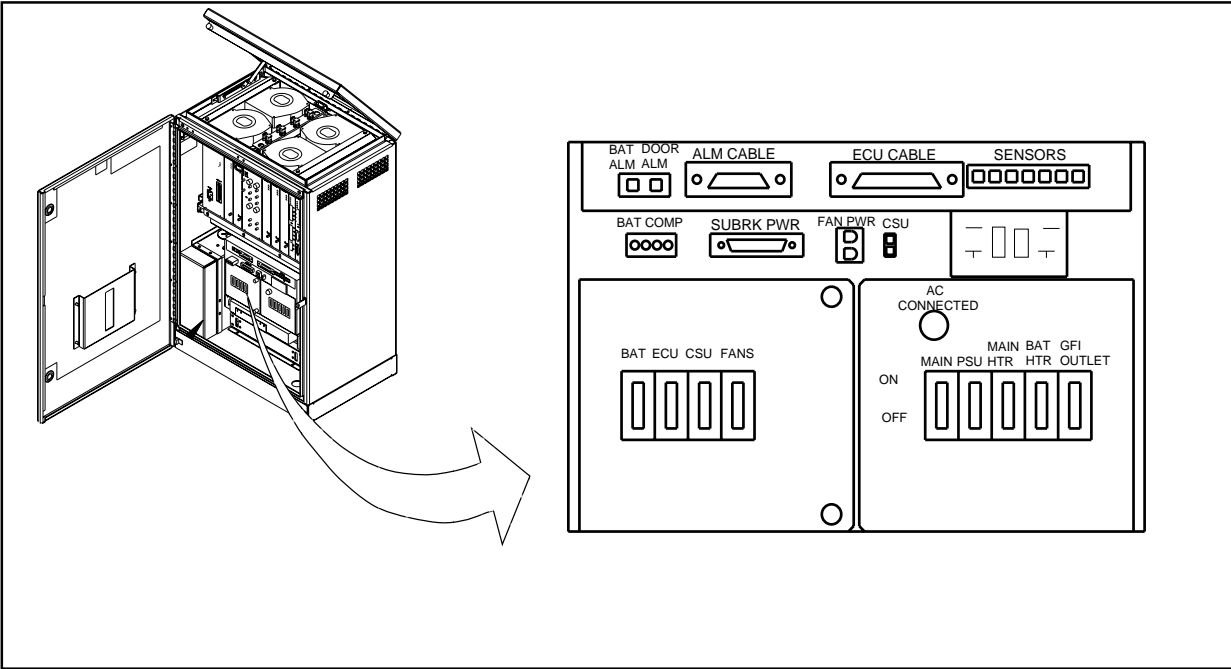

Figure 5-19. AC/DC Distribution Box
- 3. Place the **MAIN HTR** circuit breaker on the right side of the AC/DC Distribution Box in the OFF position. See Figure 5-19 on page 5-43